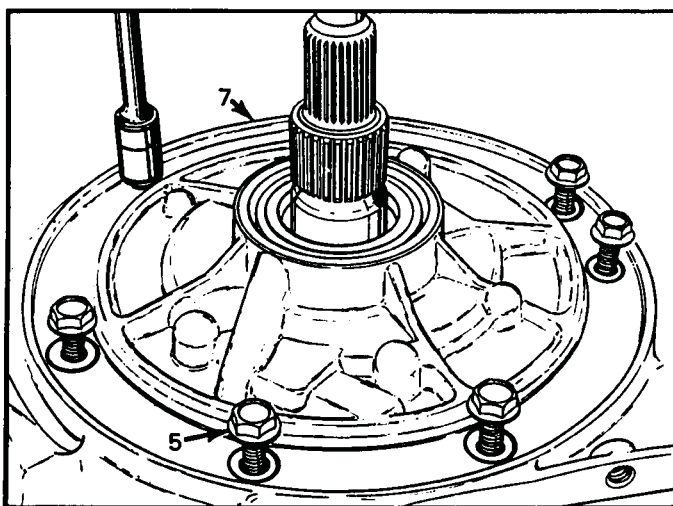

Figure 178
8. Install oil pump retaining bolts and remove the alignment dowels, install the remaining bolts (See Figure 178).